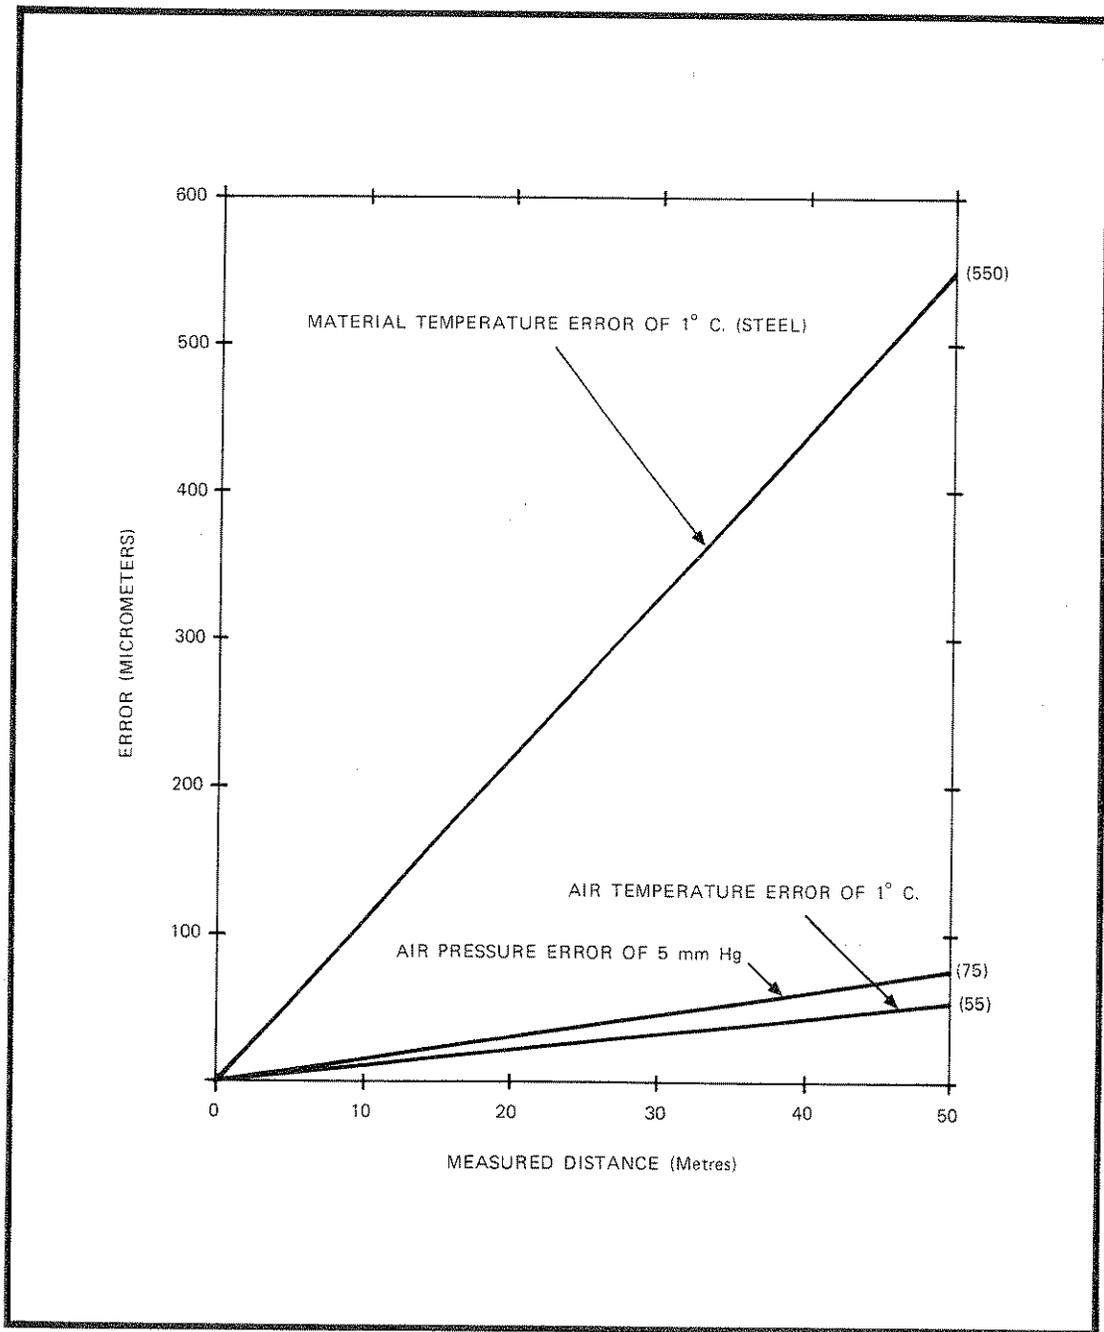

Figure 2-30. Relative Effect of Errors in Atmospheric and Material Temperature Factors
2.25 THERMAL EXPANSION OF THE PART. The previous section discussed compensation to eliminate errors due to a change in the laser wavelength. In addition, it is necessary to compensate for the expansion or contraction of the material of the part being machined or measured as the temperature changes. Strictly speaking, this problem is not related to the Laser Transducer System and occurs regardless of the position sensing transducer used on the machine. It is, however, of such prime importance that it must be understood by the user if he wishes to obtain optimum machine performance. *Figure 2-30* shows the relative effect of different errors.